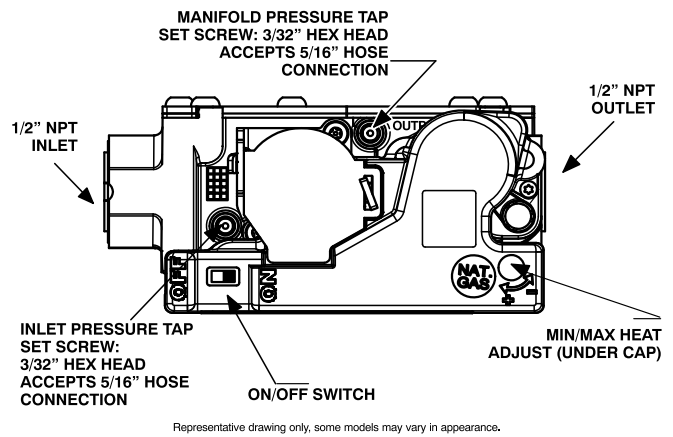

Fig. 62 – Gas Valve with Tower Pressure Ports
2. Loosen set screw on manifold tower pressure tap no more than one full turn with a 3/32-in. hex wrench, or remove the 1/8 in. NPT plug from the manifold pressure tap on the gas valve, see Fig. 62.